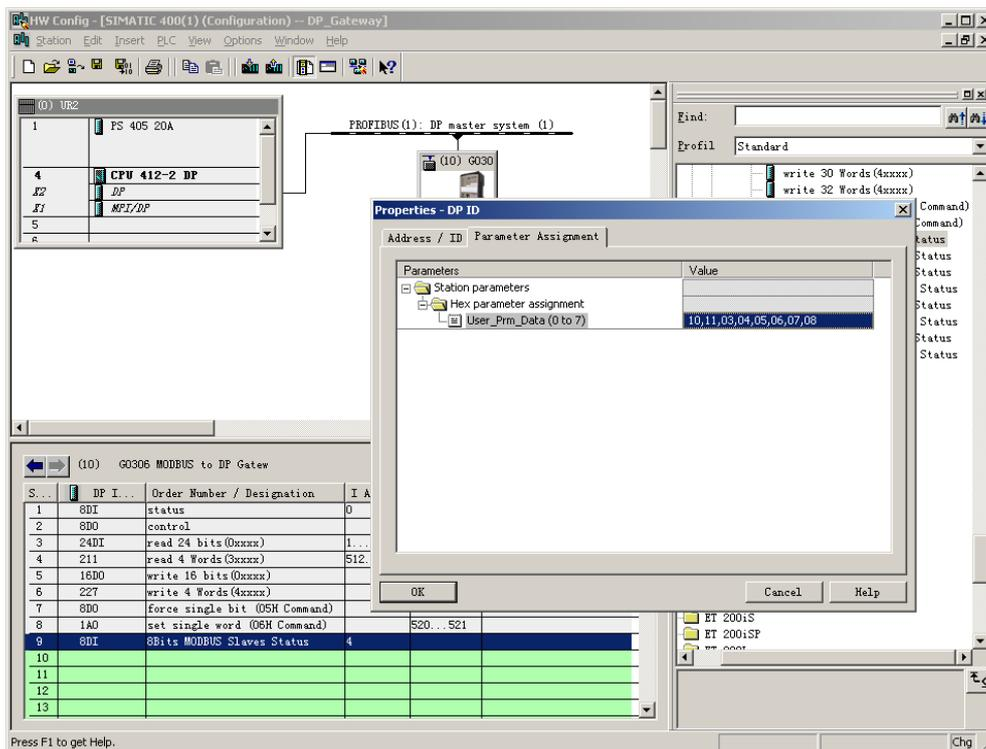

Figure 36 Configure Slave Address to Be Monitored
**c) Configure user parameters of "8Bits MODBUS Slaves Status" module, shown in Figure 36:**
As shown in Figure 36, each device corresponds to 1 byte module user parameter. In the previous example, total two slave stations (10, 11) is configured, so write the two addresses into the module user parameter.